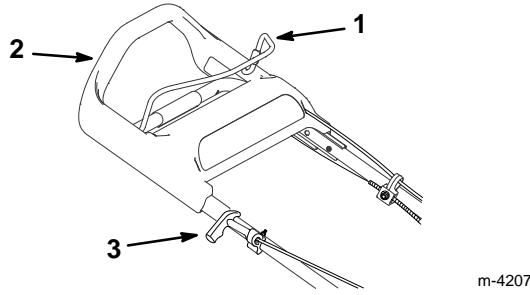

Figure 7
2. Hold the blade control bail against the upper handle (Fig. 7).
3. Pull the starter handle lightly until resistance is felt, then pull it sharply (Fig. 7). Allow the rope to return to the handle slowly.